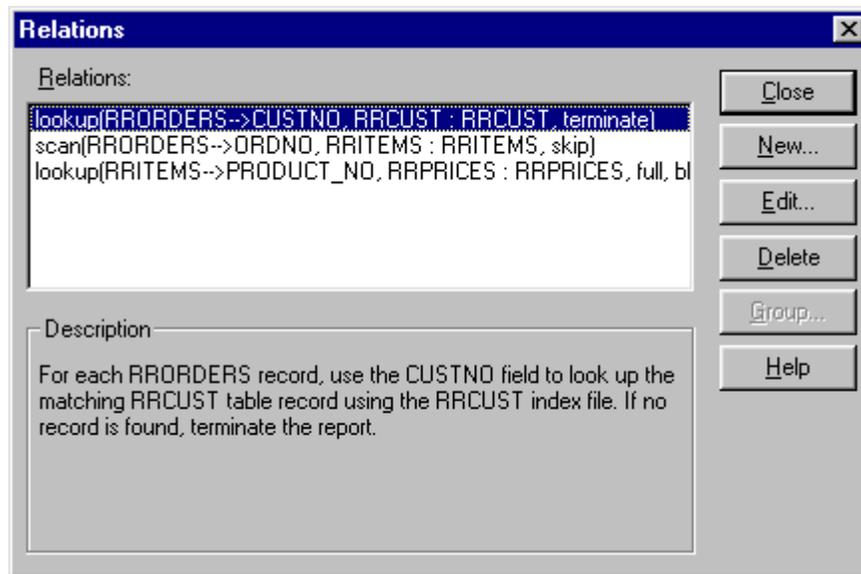

Figure 6.3 Database Relations Dialog
1. Select Database ⇒ Relations to display the Relations dialog (see Figure 6.3).